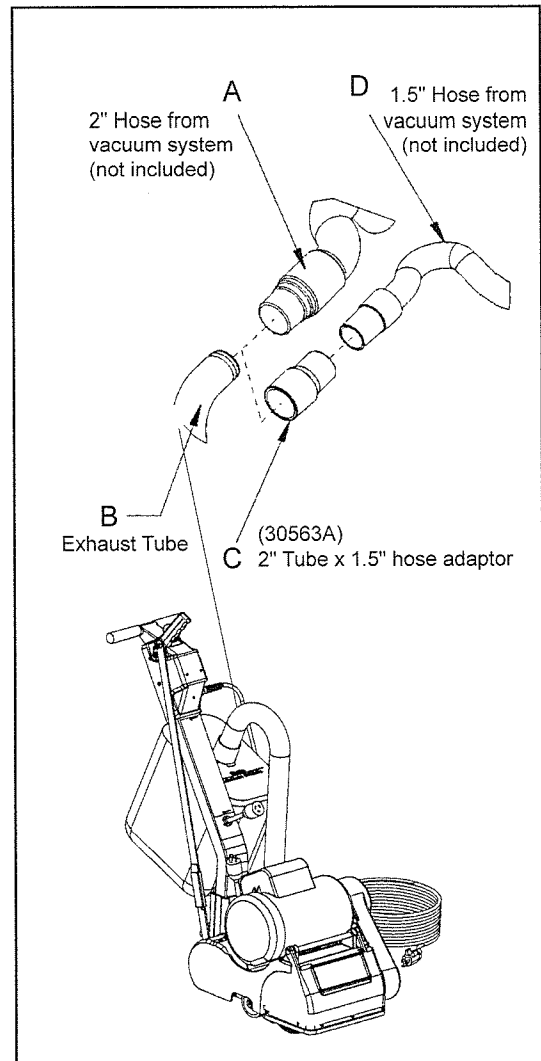

Figure 9
1. Install 2" hose end (figure 9, A) directly over the exhaust tube (figure 9, B).
1. Install the 2" x 1 1/2" hose end adaptor (Part No. 30563A) (figure 9, C) over the exhaust tube (figure 9, B).
2. Insert 1 1/2" hose end (figure 9, D) into the adaptor (figure 9, C).